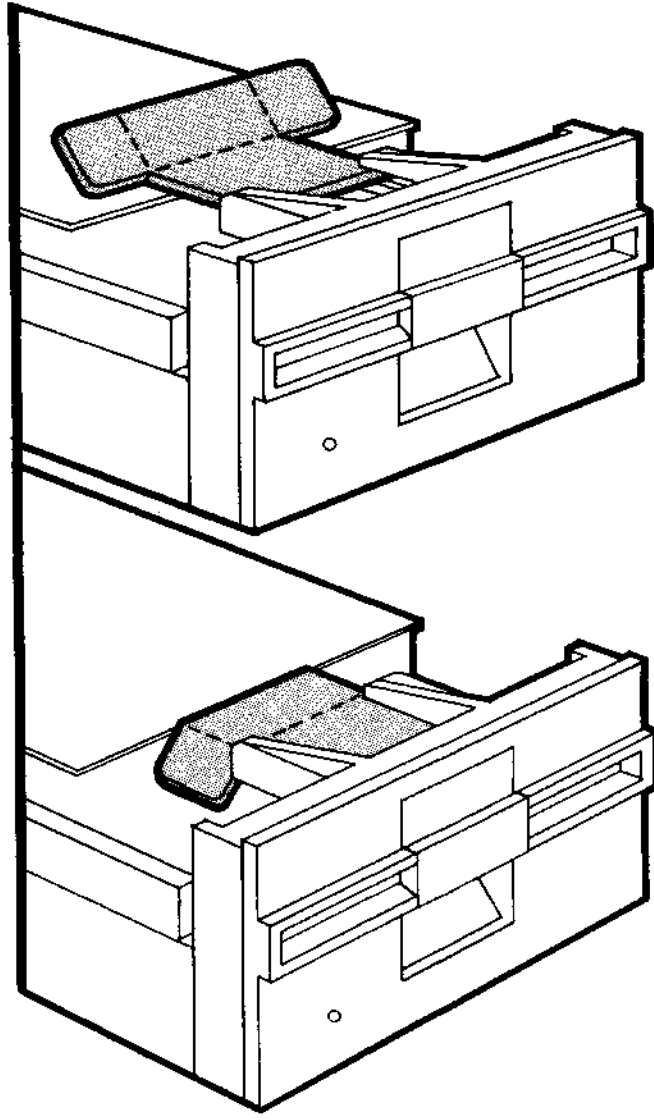

FIGURE 35. DOOR RETAINER
- C. Install the door retainer by sliding the center section (with the tabs nearest the PCB), into the door pin slots and bending the tabs down over the hub frame (see Figure 35).